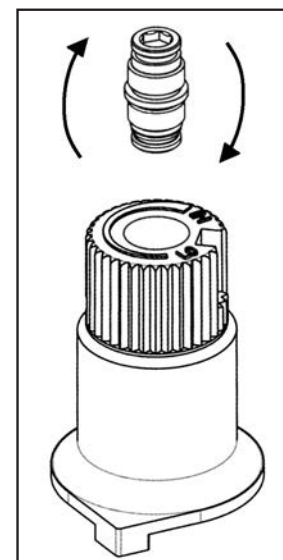

Figure 41: Flip valve screw.
- d) Flip the screw (refer to Figure 41).